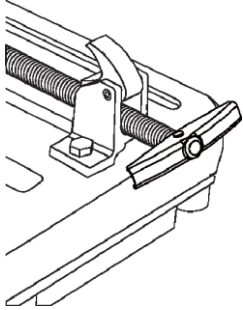

Fig 5
1. Open the gauge by turning the gauge adjustment crank 5 or 6 turns counterclockwise. (Fig 5)